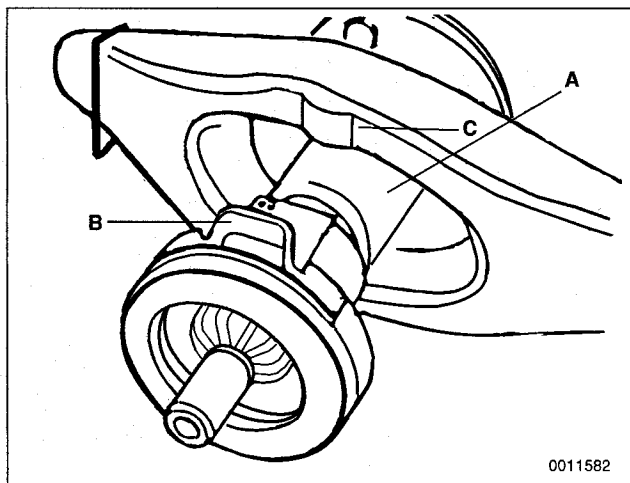

Fig. 11. Clutch release bearing correctly installed on guide sleeve (A). Bearing tabs (B) align with contact points (C) on release lever.
9. Clean and inspect release bearing guide sleeve on transmission. Install release lever and release bearing. See Fig. 11.